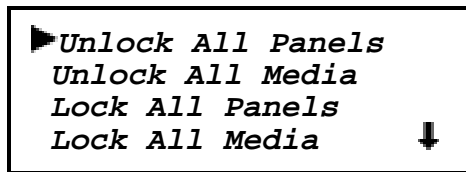

Figure 3-34 Security Menu
4. Press the **Enter** button to select the Security Menu, shown in Figure 3-34.